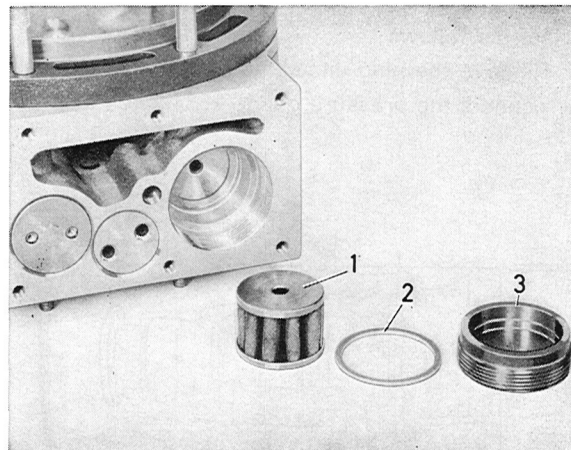

Fig. 4-55. Fine filter
2. Remove the plug and the seal and the fine filter, see Fig. 4-55.